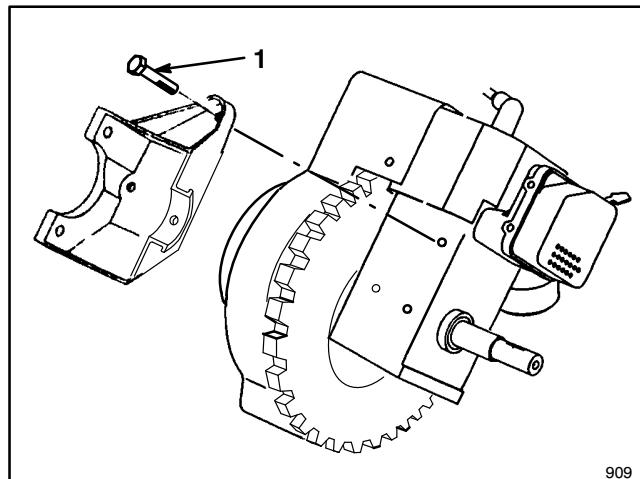

Figure 7
- B If bracket was secured to engine with (3) three screws (Fig. 7), remove screws and bracket.